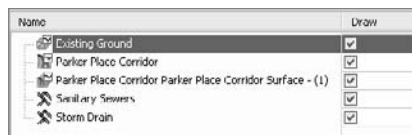

Figure 11.12
6. Use the scroll bar to slide over to the Change Labels column of the dialog. Click inside the Change Labels field, as shown in Figure 11.12, for the Existing Ground surface. The Select Style Set dialog will appear.